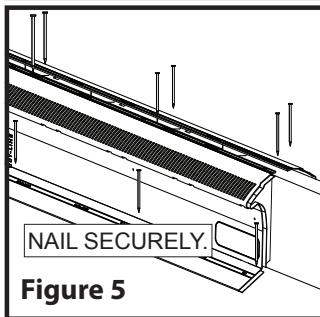
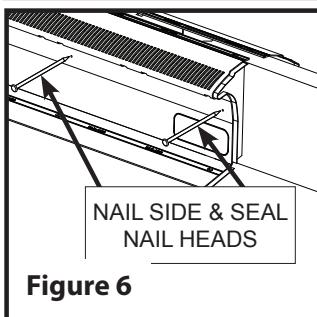

Figure 5
Figure 6
3. Place the TRV-4 against the ridge board and bend the bottom hinged flange to the pitch angle of the roof so it conforms to the roof slope. Nail the TRV-4 vent to the side surface of the ridge board with $\frac{1}{4}$ " minimum nails through the molded nail holes. (See Figure 6) Nail the bottom flange with $\frac{3}{4}$ " minimum roofing nails using the molded nail holes. (See Figure 5) Nail the top flange with $\frac{3}{4}$ " minimum roofing nails using the molded nail holes. (See Figure 5)